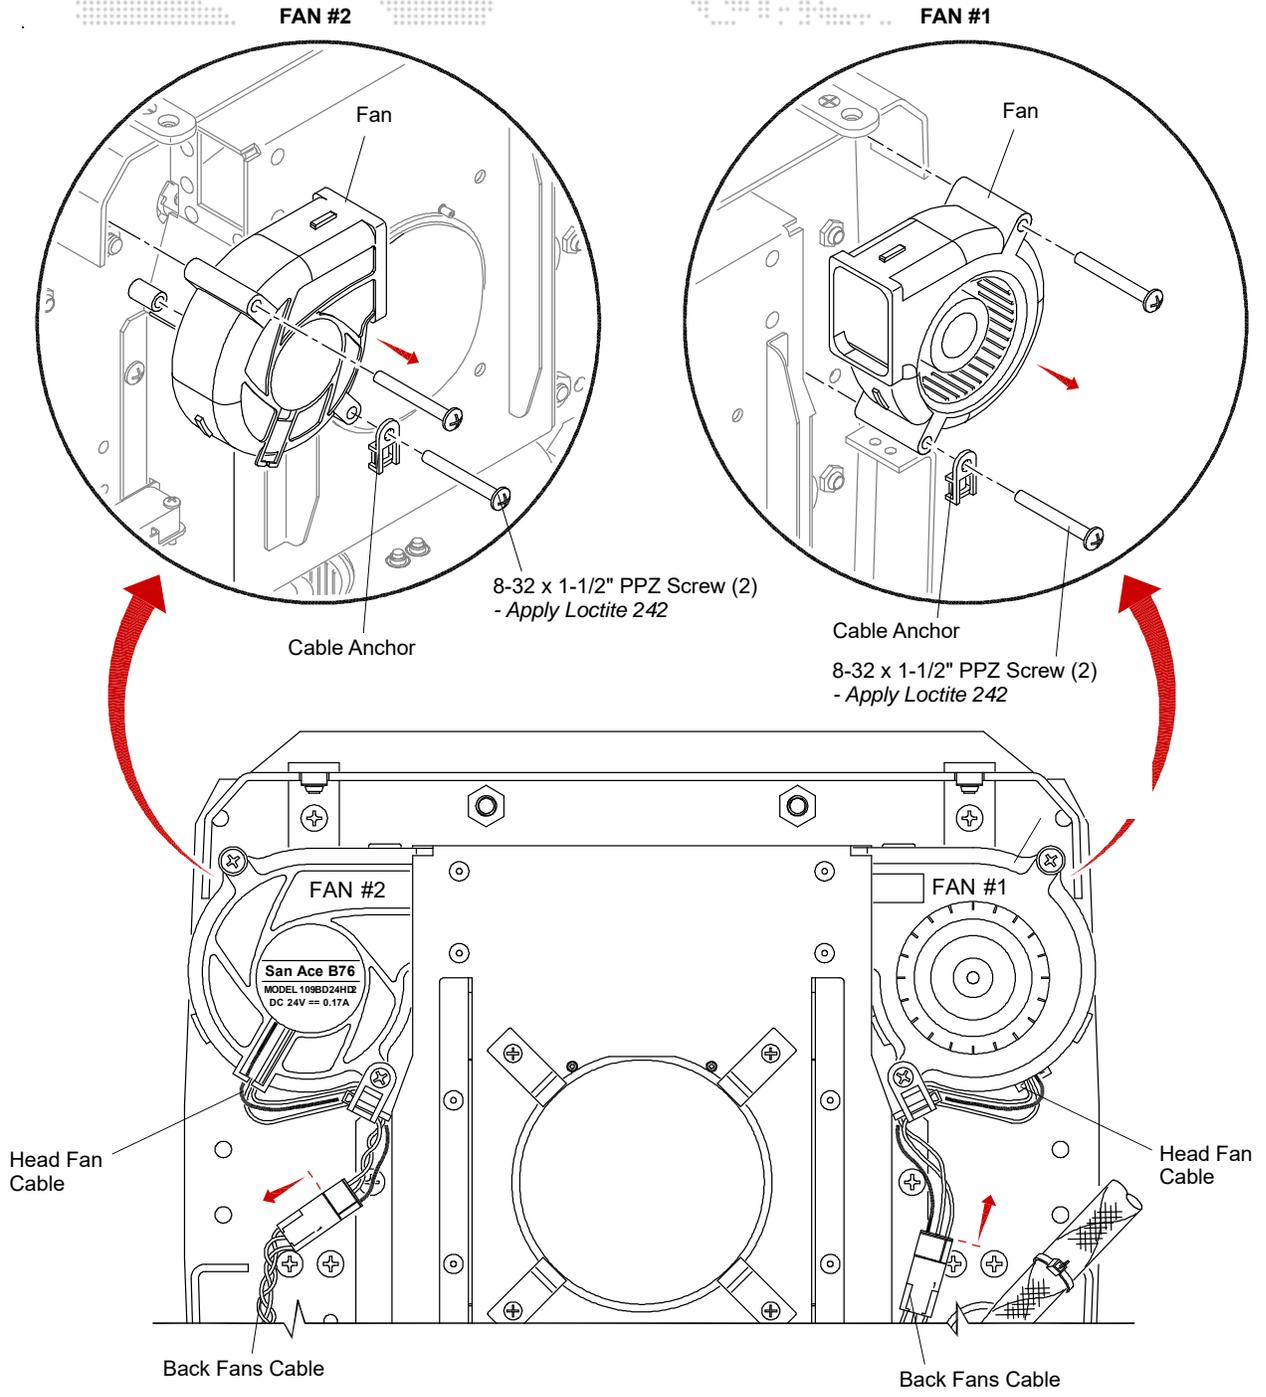

Figure 3-42: Replacing Back Fan #1 or #2
- Step 4. At required fan, cut cable ties which secure Head Fan Cable to Head Assembly (**Figure 3-42**). Note their position for re-installation.
- Step 7. Install new Head Fan Cable Assembly - along with saved cable anchor - by doing steps in reverse. Apply Loctite 242 to screws when installing new Fan as shown in **Figure 3-42**.